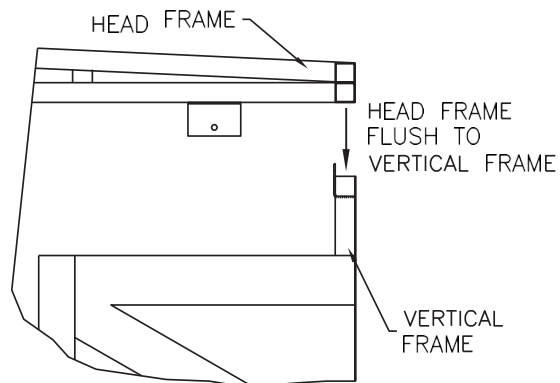

FIG 13
- Set Head Frame on outside of left and right Angle Brackets (Figure 13).